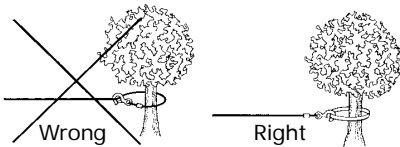

Figure 3
8. **NEVER HOOK THE WIRE ROPE BACK ONTO ITSELF.** Use a nylon sling (Superwinch Part No. 1509). Hooking the wire rope onto itself can damage the rope (Figure 3).